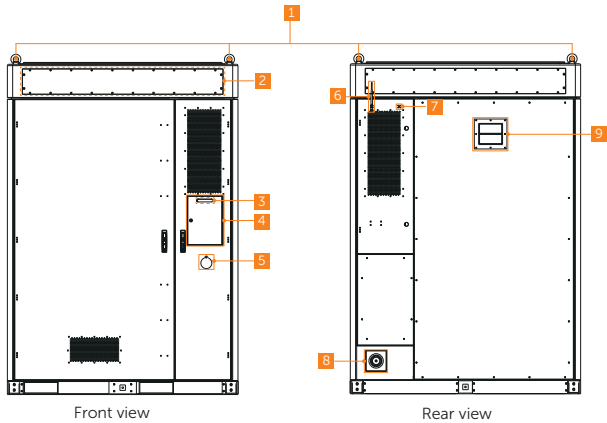

Figure 2-4 Parts description (in the closed state)
- The mark "*" indicates that parts in the front view (Figure 2-4) cannot be fully seen.